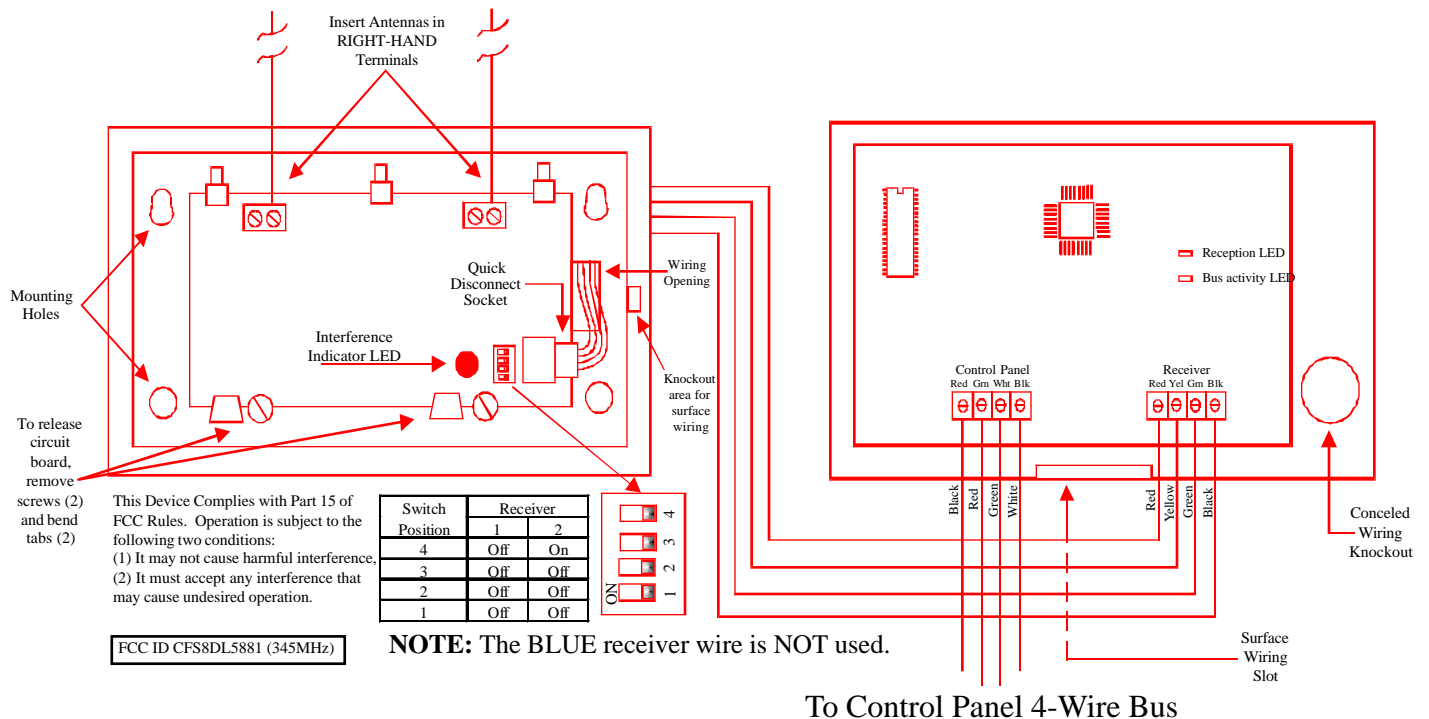

Figure 1: Installation of receiver and Bridge Board
- Set the receiver's DIP switch to identify the receiver as receiver 1 or 2. See figure 1 below.